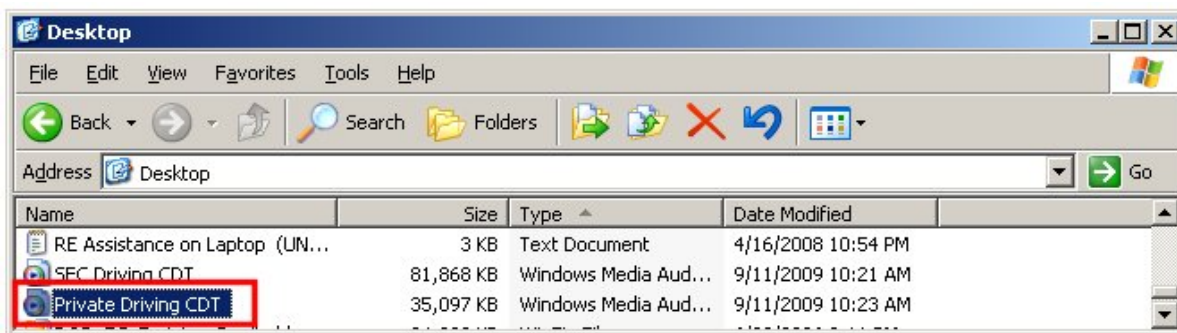

Figure 161. AAR – Copying Driving Exercise to CD
3. Double-click on C: and navigate to the file(s) to be copied (Figure 161).